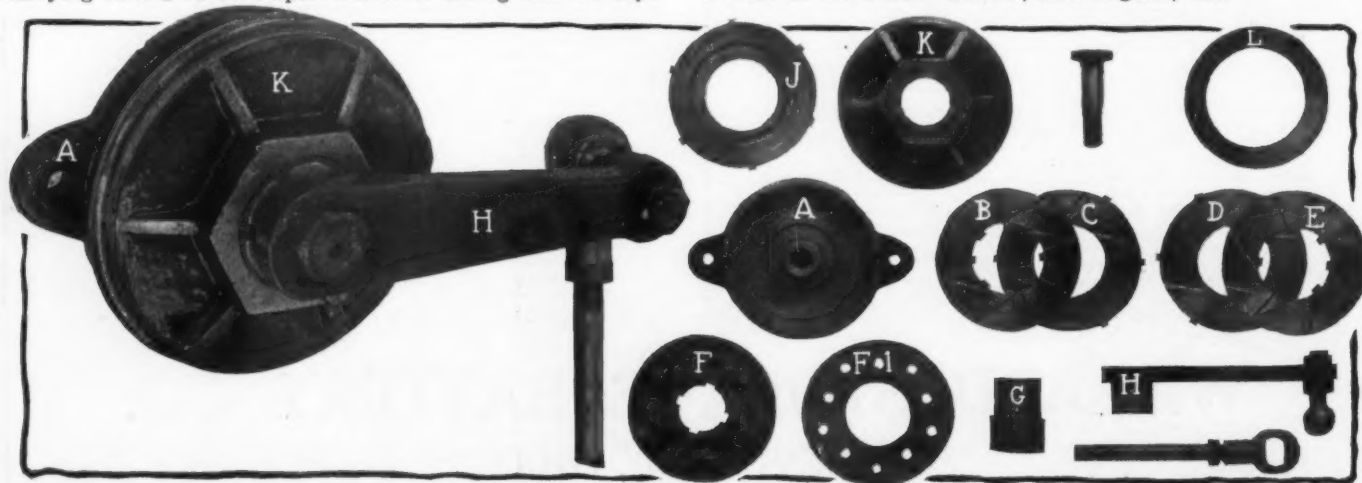

Fig. 8—Turner spring controller. At the left, the device is shown ready for mounting on the car. At the right are the constituent parts
**Turner Spring Controller**—Yet another device designed to produce easy riding is shown in Fig. 8. It is claimed for this attachment that it does not affect the resiliency of the vehicle springs, as no friction is used while the spring is closing. At the left the device is shown assembled but without the lower ball-and-socket joint and the necessary clip to fasten the vertical rod to the car axle. The device itself as shown is bolted direct to the frame by a lug at each side of the outer casing.